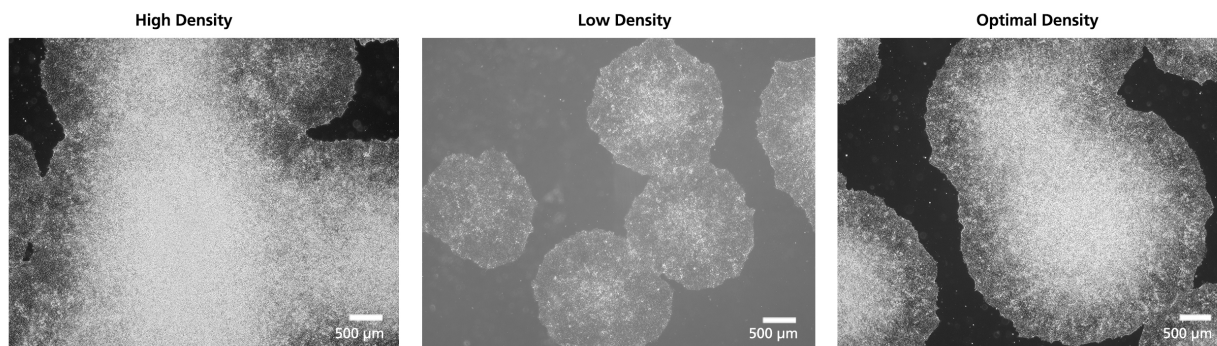

Figure 2. SCTi003-A-5 hiPSCs Demonstrate Varying Colony Densities When Seeded at a Range of Starting Concentrations
14. On Day 6 - 8, select the well with optimal hiPSC colony density for passaging (see Figure 2). The culture should consist of healthy hiPSC colonies that are medium to large, compact, and have centers that are dense compared to their edges.